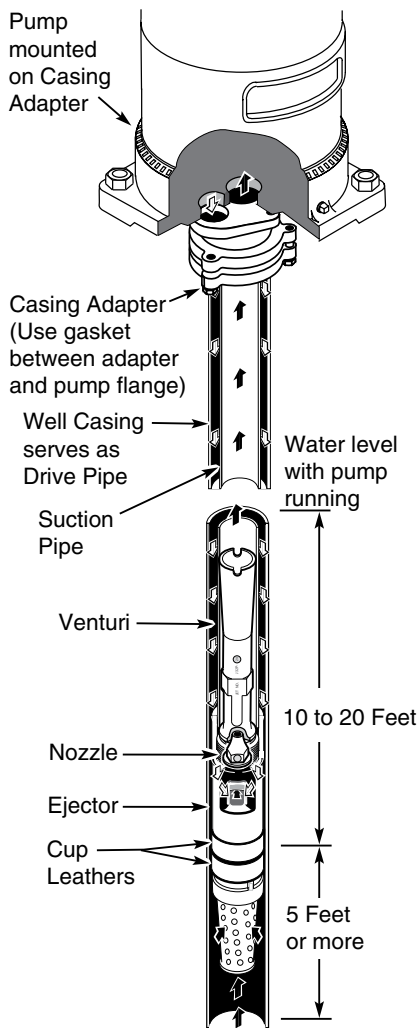

Figure 8
Single pipe installations require (see Figure 8):
**IMPORTANT:** as a guide, the ejector should be set at least 10 to 20 feet below the lowest water level with pump running, if possible, but always at least 5 feet above the bottom of the well (see Figure 8).
Step 4. To properly seat the cup seals, after the ejector is correctly positioned move the assembly up and down slightly. Water pressure in the casing will then soak the cup seals (see Figure 8). They should seal within 2-3 hours after installation.